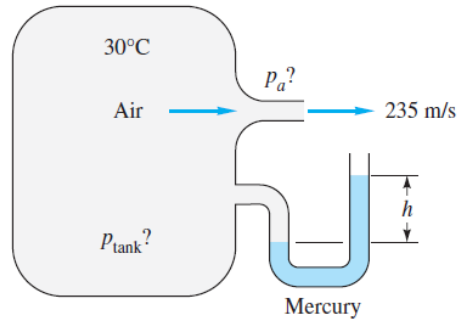

Fig. 9.4
- 9.4 The large compressed-air tank in Fig. 9.4 exhausts from a nozzle at an exit velocity of 235 m/s. The mercury manometer reads $h = 30$ cm. Assuming isentropic flow, compute the pressure a) in the tank and b) in the atmosphere. c) What is the exit Mach number?